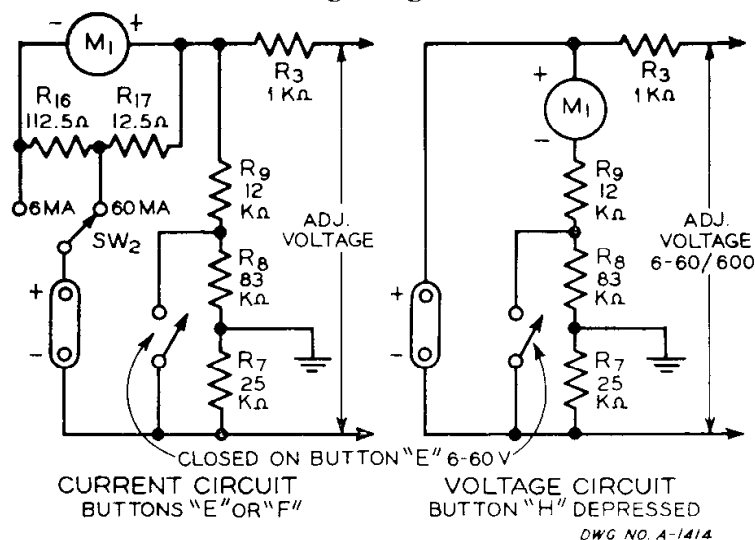

FIGURE 5
4.1 The test circuit shown in Figure 5 permits measurement of leakage current of electrolytic capacitors. The self-contained power supply provides any desired test voltage up to 600 volts d-c. To facilitate accurate adjustment of the lower voltages, a low voltage range of 60 volts max. is provided in addition to the 600 volt max. circuit. The meter reads the actual voltage applied to the capacitor terminals since the limiting resistor (which limits the current thru short-circuited capacitors to 60 ma) is in the cathode circuit of the grid-controlled rectifier tube. Two meter ranges are provided to protect against burnouts, an initial range of 0-60 ma and a final reading range of 0-6 ma.